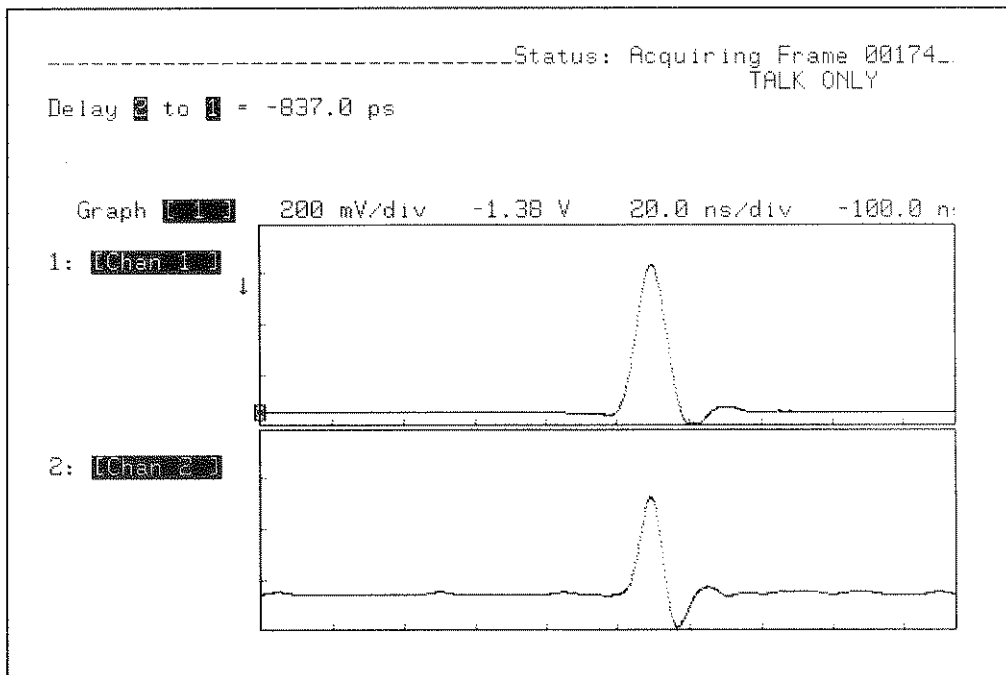

Figure 10-15. A8TP3 to A8TP2 Delay Waveform
9. Move the 54200D Input 2 probe from A8TP1 to A8TP3. The display should appear similar to figure 10-15. Adjust A8R28 until the DELAY measurement from 2 to 1 is approximately zero seconds (± 1 ns).